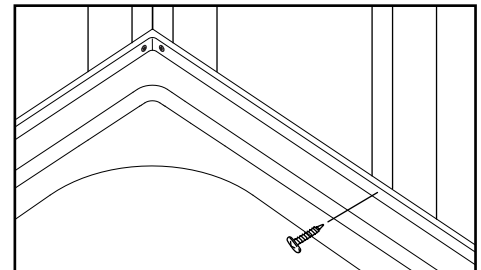

FIGURE 4. Run a screw through bathtub flange at each stud location.
- e. Once leveled, screw bathtub flange to all studs (Fig 4).